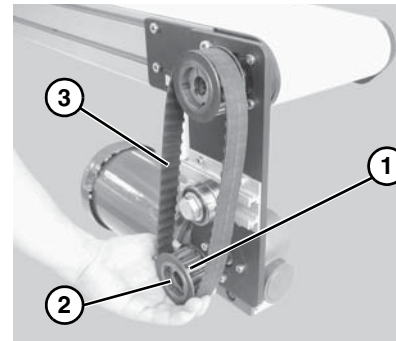

Figure 27
If drive pulley (**Figure 27, item 1**) is replaced, wrap timing belt around drive pulley and complete step 3.
- Remove pulley (**Figure 27, item 1**), taper hub assembly (**Figure 27, item 2**), and timing belt (**Figure 27, item 3**).
*If drive pulley (**Figure 27, item 1**) is removed. Wrap timing belt around drive pulley and complete step 13.*